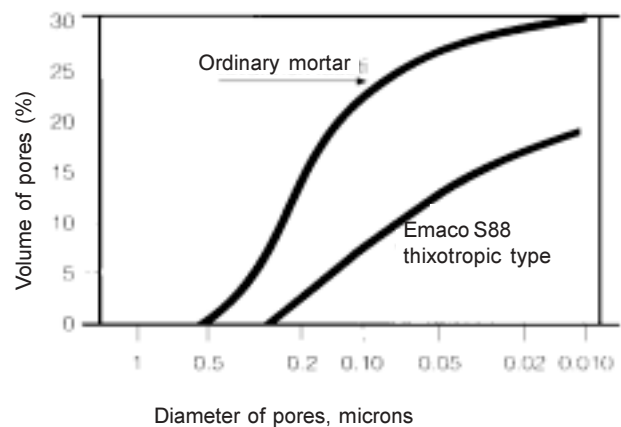

Fig 2. Cumulative volume of pores of EMACO S88, thixotropic type (measured by mercury porosimeter), compared with that of ordinary mortar having same flow.
- Capillary porosity: see fig 2